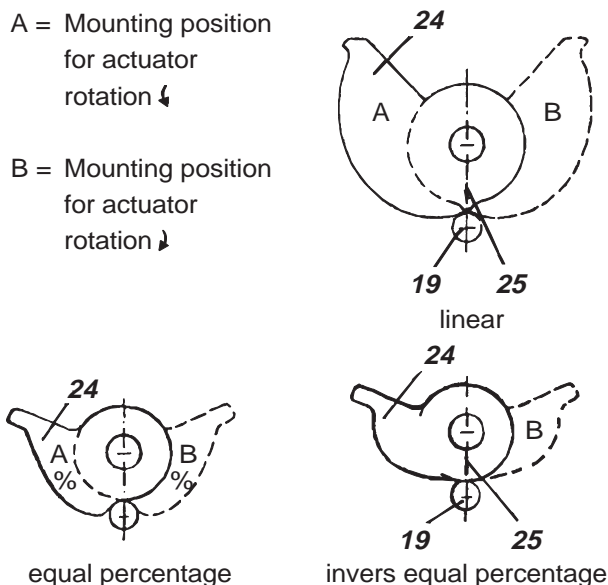
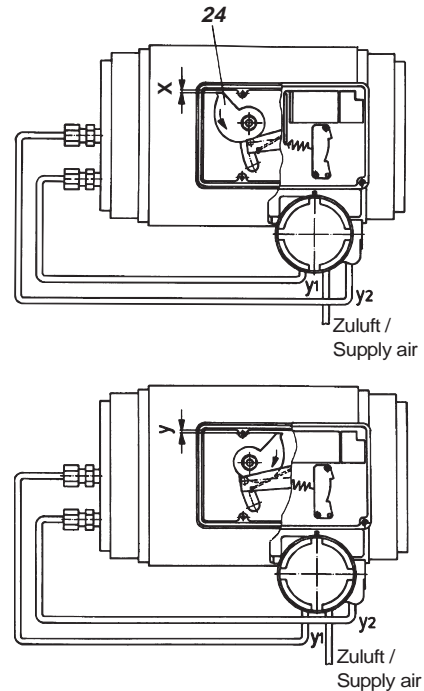

Fig.15: Mounting position of the cams
Fig.16: Rotary actuator with attachment kit for rotary movement and double-acting positioner
- Mount cam **24** in accordance with the direction of rotation of the actuator (see Fig. 15). The linear cam is fastened to the actuator drive shaft in such a manner that the dimension x or y (Fig. 16) amounts 2 mm, whereas in case of equal percentage cam the dimension x is approx. 17.5 mm, and the dimension y is approx. 21.5 mm. In case of inverse equal percentage cam the dimension x is approx. 18 mm, and the dimension y is approx. 23 mm.
Screw positioner to housing of attachment kit. With the linear cam and the inverse equal percentage cam check whether mark **25** points to the center of the cam follower **19** (see Fig. 15); adjust if necessary.
exchange positioner outputs (see Fig. 16) and reverse cam. The changeover plate **50** (see page 23) remains in 'N' setting.